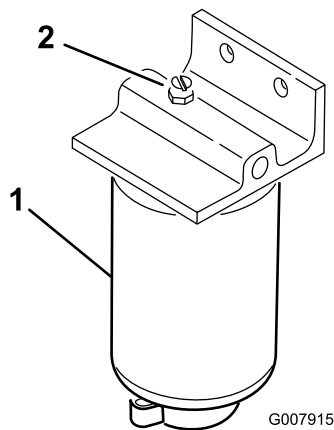

Figure 37
3. Open vent plug on the fuel filter/water separator (Figure 37).